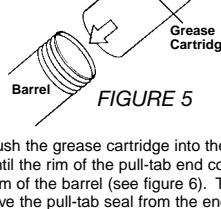

FIGURE 5
4. Remove the plastic cap from the end of grease cartridge, and insert, open end first, into the barrel. (See figure 5)